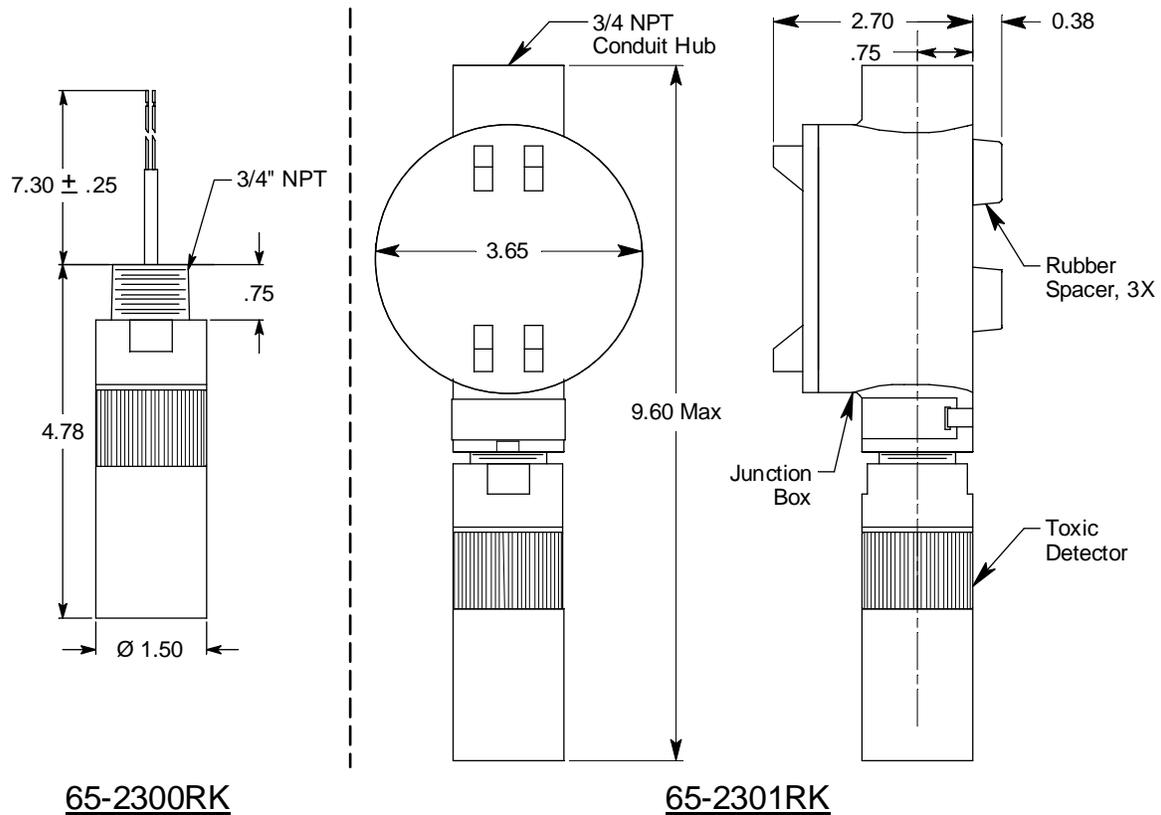

Figure 3: Outline & Mounting Dimensions, 65-2300RK & 65-2301RK
NOTE: If you are installing a 65-2300RK, it does not include a junction box and is usually factory installed in one of a controller's conduit hubs or may be field installed using the 3/4" NPT threads on the end with the wires. The 65-2301RK includes a junction box as shown in Figure 3 below.
2. At the mounting site you select, hang or mount the junction box with the detector facing down (see Figure 3).
CAUTION: Mount the toxic detector with the detector facing down (see Figure 3.)